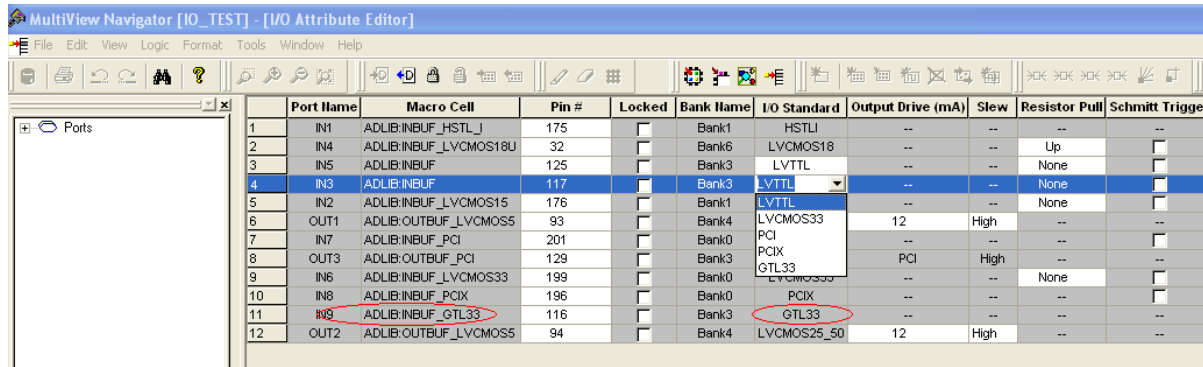

Figure 8-6 • Assigning a Different I/O Standard to the Generic I/O Macro
- Users will need to use the I/O Attribute Editor in Designer to change the default I/O standard if needed (see Figure 8-6 on page 203).
- The I/O standard of technology-specific I/O macros cannot be changed in the I/O Attribute Editor (see Figure 8-6).